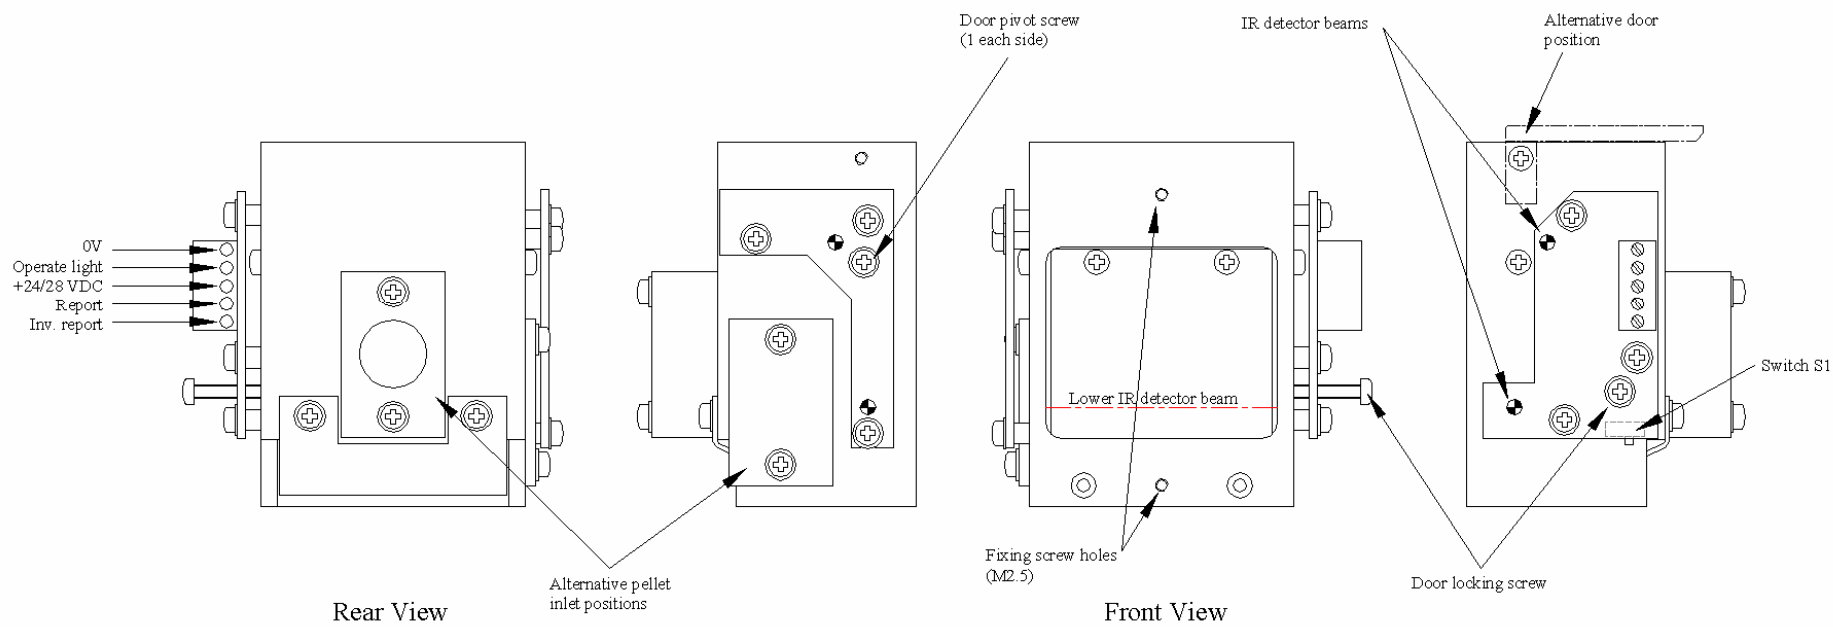

Figure 1 General layout of Reward Area 80210ra
The 80210ra/80210rax/80210rax-m Reward Area should be fitted to the chamber using ISO M2.5 screws into the front of the unit. See figures 1, 2 and 3. The screws should not be over-tightened. Where use of the two standard mounting points is not possible, various adapter plates are available.
Connections to the reward area are made via the 4 way terminal block on the edge of the control pcb (see figures 1, 2 and 3 below). A 2.5 mm diameter flat tipped screwdriver will be required.
2. The door may be locked in its open position e.g. for training purposes, but please note that with the door in its open position pellets may only be delivered via the side inlet boss. To lock the door in its open position, push the door fully open and screw in the door locking screw until it is in front of the door, preventing it from closing – see figures 1, 2 and 3.
3. The door may be removed completely. In this instance it is recommended that the door be refitted to the top of the unit to reduce the possibility of escape – see figures 1, 2 and 3. With the door fitted to the top of the unit it will still be possible to open the door to introduce rewards manually through the top of the unit if required.
Two pairs of infrared LEDs and detectors are available to generate the Report signal. The upper beam is used to detect the position of the door whilst another beam situated close to the bottom of the reward opening will detect animal activity close to the reward itself. Depending on the configuration of the door, the IR beams must be correctly configured to enable correct activity reporting. A switch on the control PCB (see figures 1, 2, 3 & 7) determines which beam is active and is used for reporting.
If the switch S1 on the control PCB (see figures 1, 2, 3 & 7) is set to position A the lower beam will be inactive and reporting will rely on the door being opened.